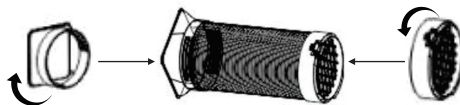

Fig. 3
Step 5: The Hose Connectors to the unit and to the window are already attached to the hoses. Please check that they are attached securely. If they are loose or not connected correctly, see the diagram to ensure that the hose connections are correct. (Fig. 3).